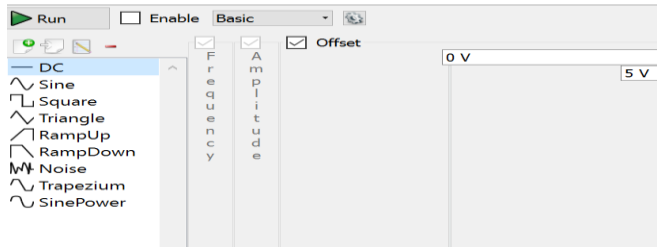

Figure 3: DAD/NAD Waveforms configuration
3. Click on DC now (See Figure 3).